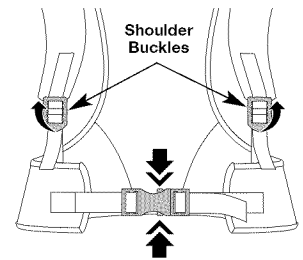

Fig. 17
- Pull up on bottom tab of the shoulder buckles to loosen the shoulder straps (Fig. 17).
- Squeeze the top and bottom of the waist clip to release and remove unit (Fig. 17).